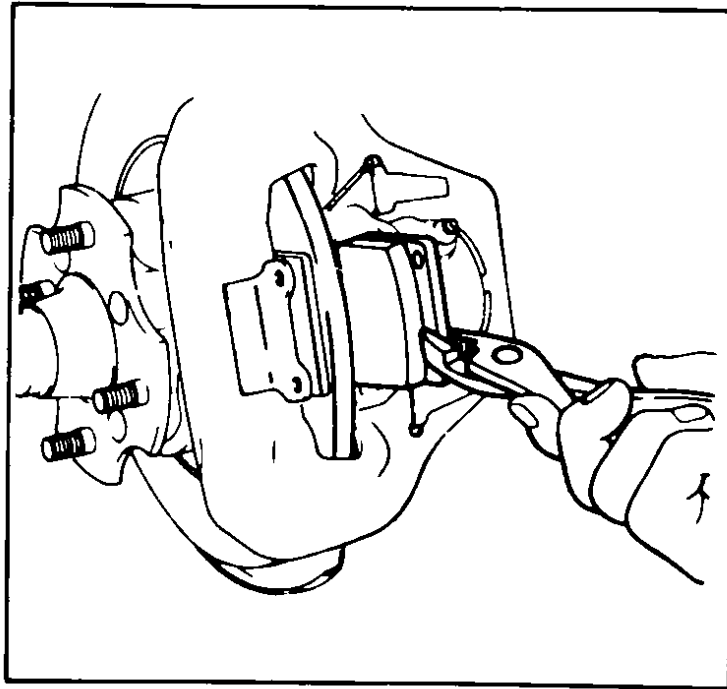

Fig 108 Removing or installing brake pad – Models B210 and 610
- 3 Remove the pads from caliper assembly with pliers, Fig. 108.